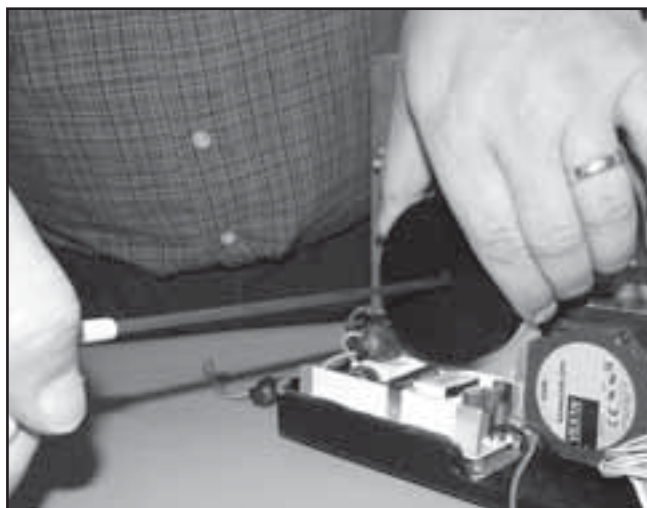

FIGURE 6.29
5. While holding the Cord Tension Spring Housing in position with one hand, loosen the retaining screw with the other hand. See Figure 6.29.